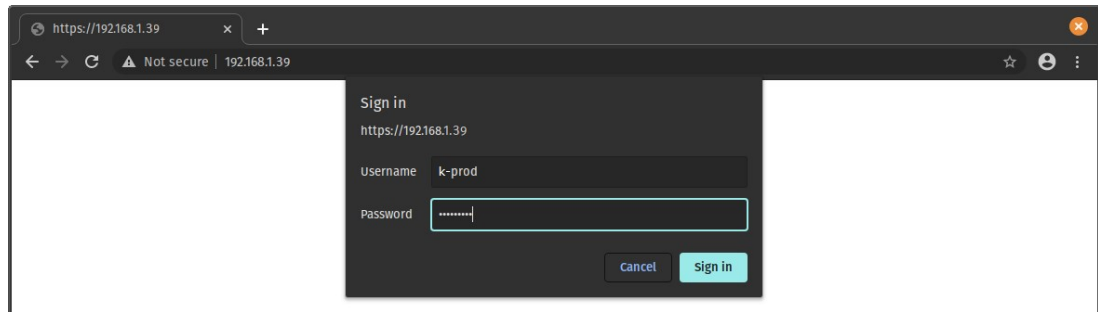

Figure 25
6.In the login dialog which will be shown (see Figure 25), enter the username and password which were shown in the Admin credentials screen.